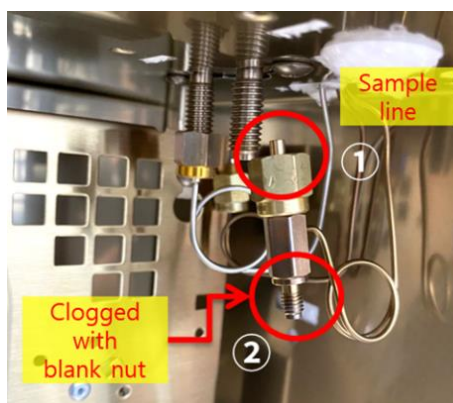

Figure 19. Where to measure when the sample line is not installed on TCD
*\* If the GC does not have a sample line of the TCD detector, measure the actual sample flow by referring to Figure 19.*